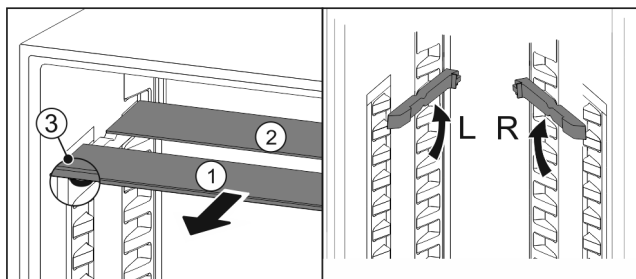

Fig. 18
- ▶ Pull the glass panels out Fig. 18 (1) from the front, one at a time.
- ▷ The glass panel Fig. 18 (1) and trim strip are at the front.
- ▷ The stops Fig. 18 (3) point down.